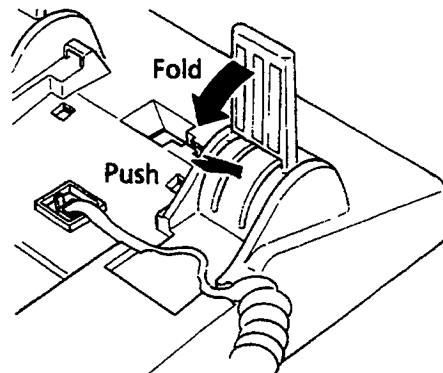

Figure 4-8 Folding the Legs on the Tilt Stand
- c. Fold the legs toward the body of the telephone. Refer to Figure 4-8 - Folding the Legs on the Tilt Stand.